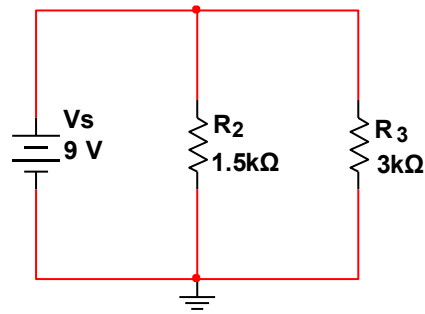

Figure 2.1 – DC Parallel Circuit
1. **Build the DC Parallel Circuit in Figure 2.1** on your breadboard.
- a. **Build** the circuit from **Figure 2.1** in **Multisim**.